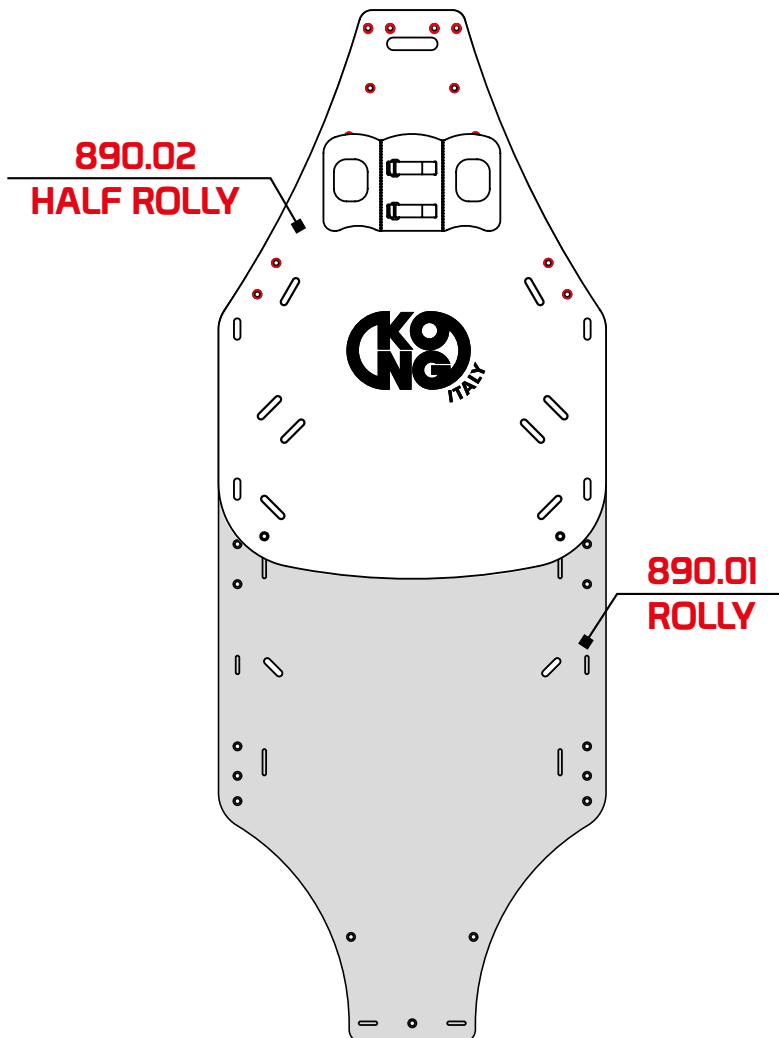
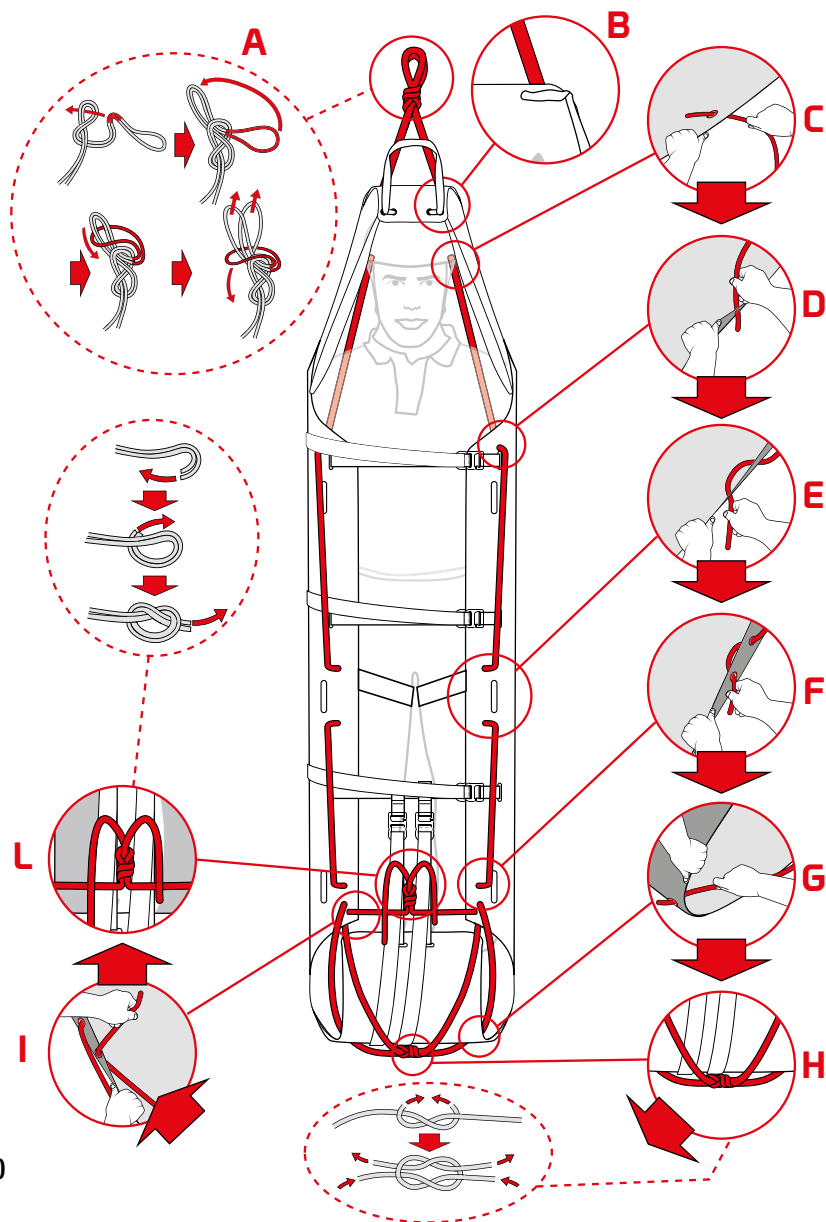

Fig.19
Fig.20
- Position the “**HALF ROLLY**” with the immobilised patient on top, and make sure that the holes are aligned (fig. 19), and then insert the rope (M) - fig. 20.